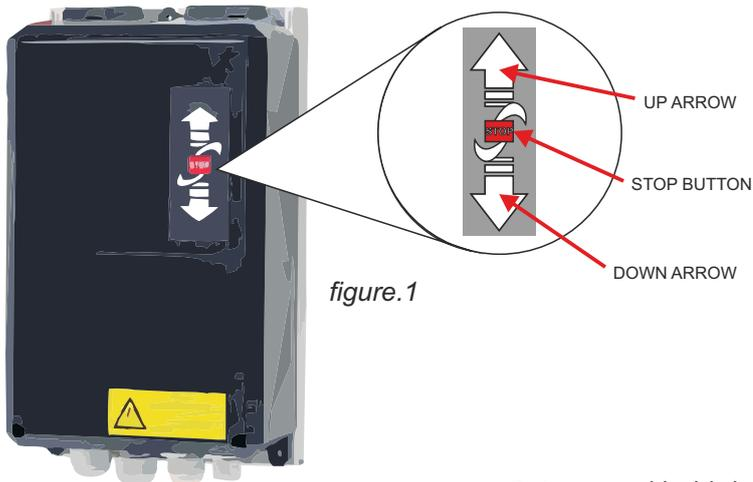

figure.1
1. On the front of the panel locate the function buttons (figure.1)